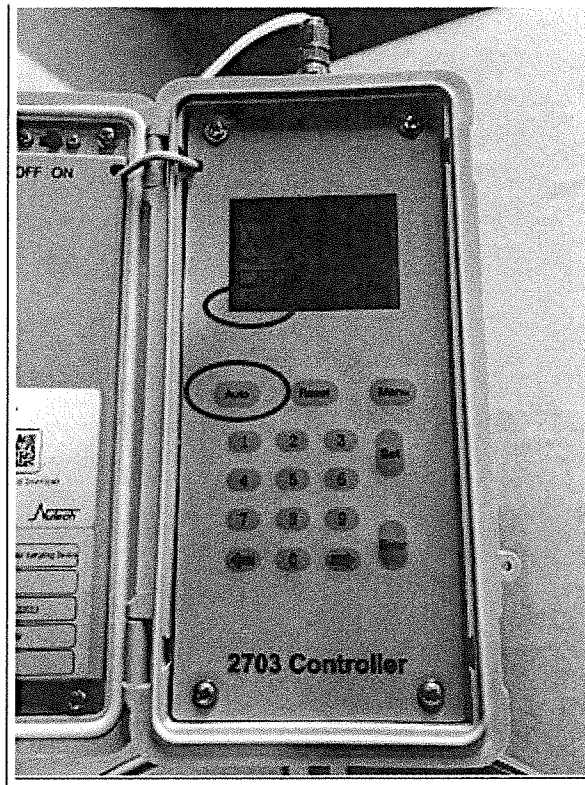

Figure 17: Activated Nutech 2703 controller.
- The word Activated will be displayed in the bottom left-hand corner of the display panel (See red circle in Figure 17) indicating that at the set start time and day the valve will open, and sampling will begin. At the set stop time and day, the valve will close automatically, and sampling will end.